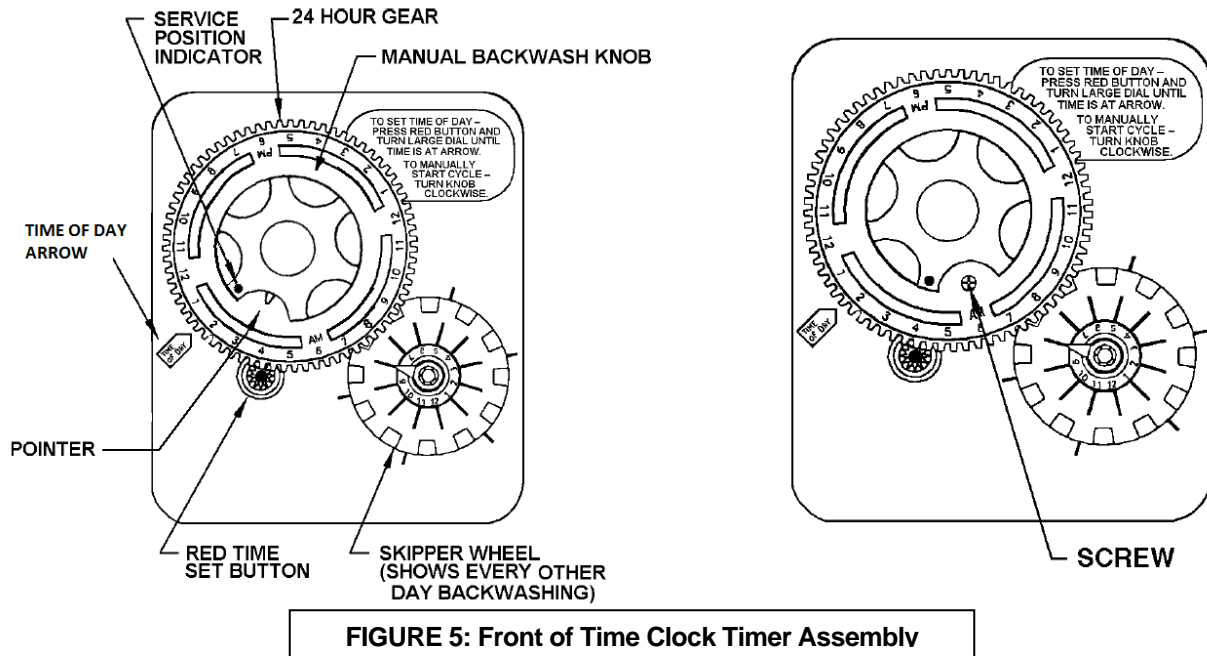

FIGURE 5: Front of Time Clock Timer Assembly
STEP 10: For all models except FES Series, plug the softener into an unswitched electrical outlet and slowly rotate the Manual Regeneration Knob (see Fig. 5, page 7 or Fig. 6, page 10) clockwise until two clicks are heard. This is the “BACKWASH” position.
STEP 16: Set the current time of day on the timer (note AM and PM) (refer to Fig. 5, Fig. 6 or Fig. 8, depending on the model number).
STEP 17: Set the regeneration frequency (refer to Fig. 5, Fig. 6, or Fig. 8 depending on the model number).